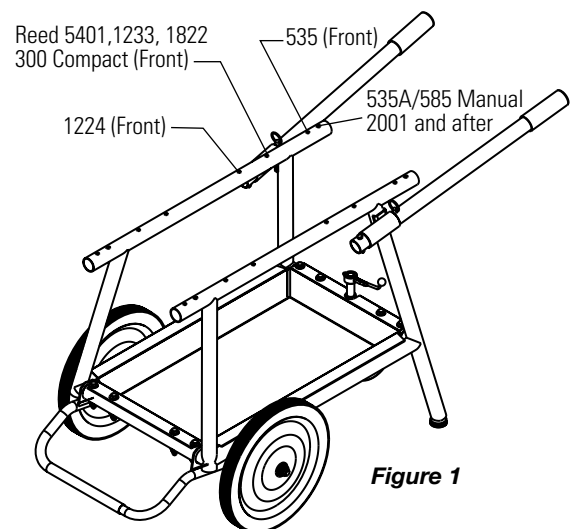

Figure 1
1. Assemble left and right side to front and back crosslinks. Ensure the cart stops are put in place at this point. Tool tray needs to be in place before inserting bolts. See Figure 1.
5. Mount threading machine (see Figure 1) for proper bolt holes for the machine being used.